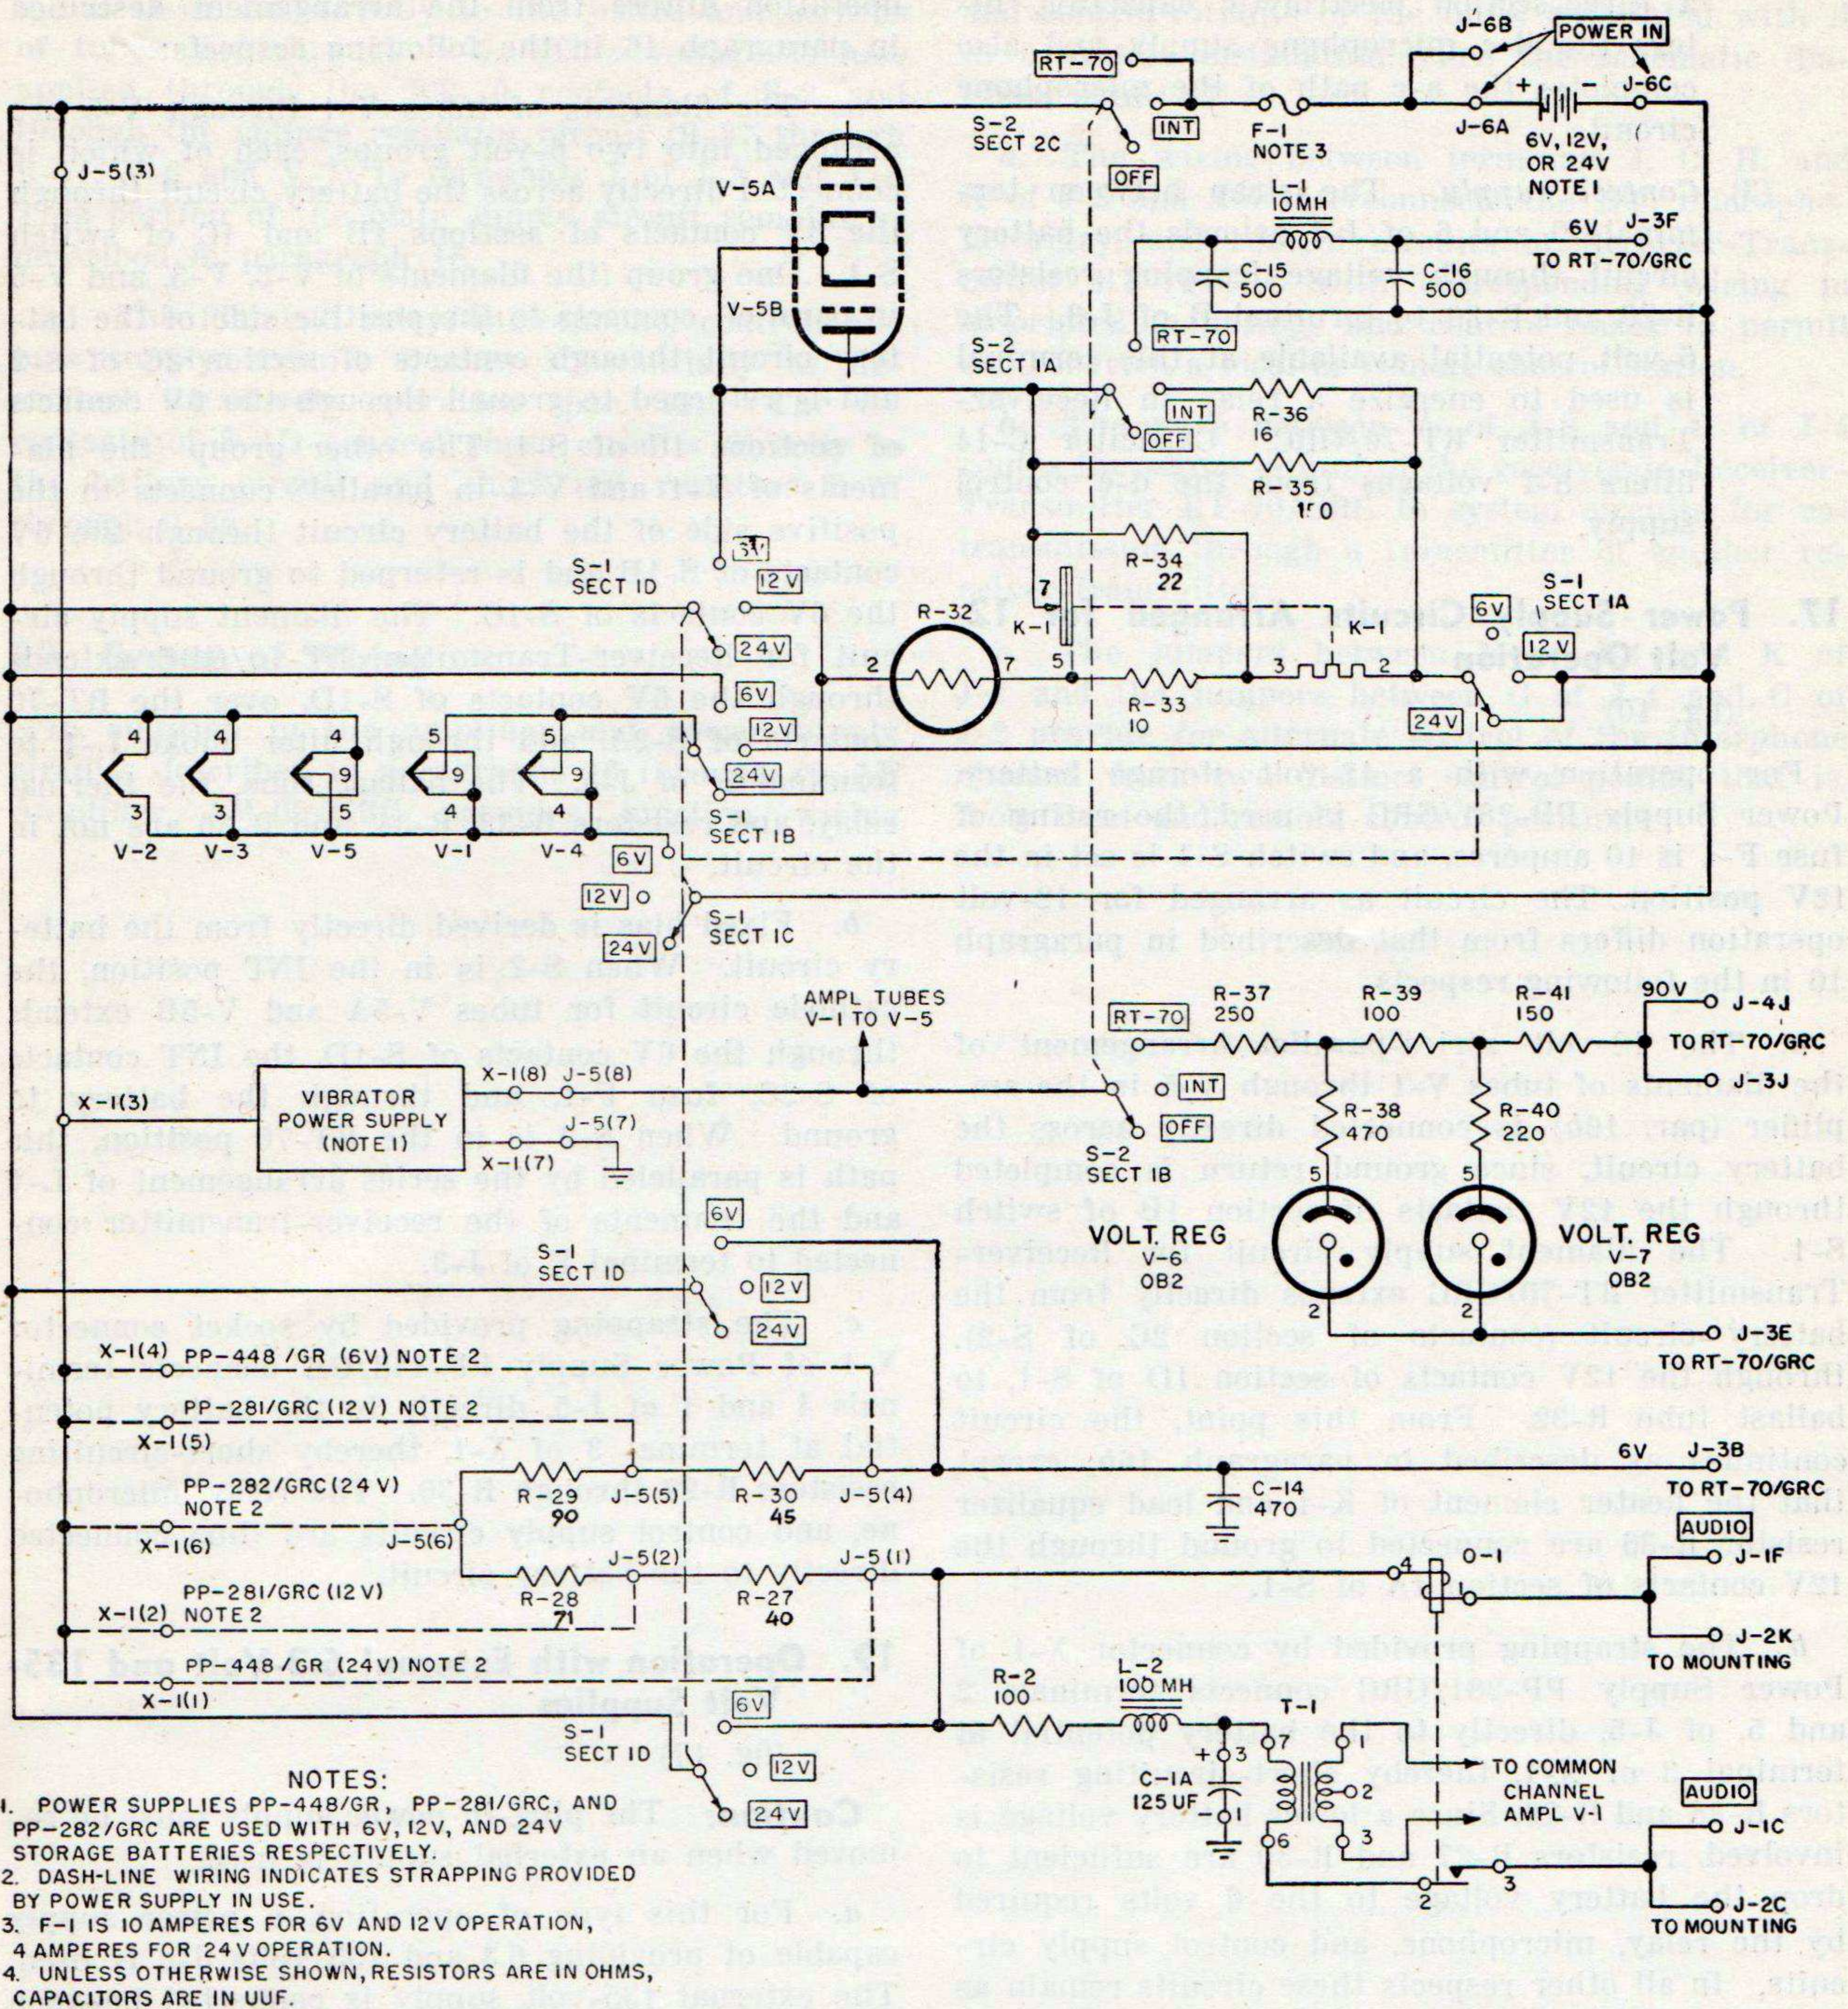

Figure 10. Power supply circuits.
(fig. 10)
d. **RELAY, MICROPHONE, AND CONTROL VOLTAGE SUPPLIES.** Socket connector X-1 of Power Supply PP-282/GRC provides a strap connection between terminals 3 and 6 of connector J-5 in the power supply compartment of the amplifier. (See the lower left-hand corner of figure 10.) This connection arranges a group of voltage-dropping resistors (R-27 through R-30) to drop the 24 volts from the storage battery to the 6 volts required by relay O-1, the microphone circuit, and external control circuits.
- (1) *Relay circuit.* The strap connection between terminals 3 and 6 of J-5 connects the battery circuit through voltage-dropping resistors R-28 and R-27 to the 6-volt coil of relay O-1 (terminal 4). The relay circuit extends through the relay coil (terminal 1) to terminals F of J-1 and K of J-2. The relay is energized when ground return is connected to either one of these terminals. In a typical installation, ground is connected to these terminals when the interphone microphone push-to-talk button is operated.
- (2) *Microphone circuit.* The strap connection between terminals 3 and 6 of J-5 also connects the battery circuit through R-28 and R-27 to the microphone circuit. The circuit continues through voltage-dropping resistor R-2, choke L-2, and the primary winding of microphone transformer T-1 over the normally open contacts of relay O-1 to terminals C of connectors J-1 and J-2. In a typical installation, the carbon element of the microphone is connected between terminal C of J-1 or J-2 and ground through the microphone push-to-talk switch. When the push-to-talk switch is closed, relay O-1 in the amplifier is energized. Its contacts close, complete the talking circuit, and apply the excitation voltage to the carbon element of the mi-